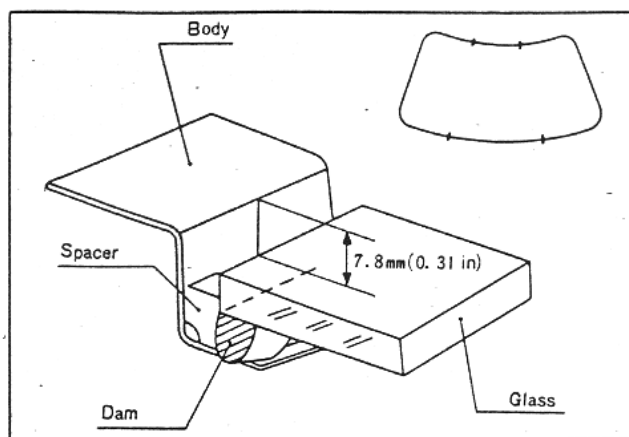

Fig. 14-36 Adjusting clearance
3. When installing the glass, 7.8 mm (0.31 in) clearance should exist between the body and the glass. Check the clearance at the four portions shown in Fig. 14-36.